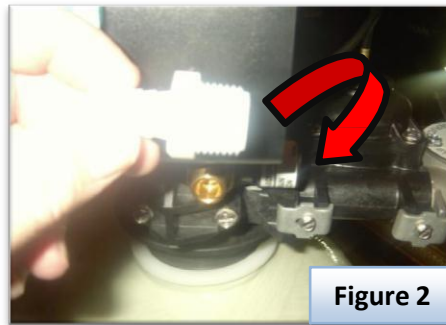

Figure 2
3. Use Teflon tape ONLY and wrap around the threaded end of the drain line adaptor then screw adaptor into the control valve as shown in figures 2 and 3 below. Now, snug up with a small wrench. Note: You don't have to tighten it extremely tight, it will crack the backwash assembly housing